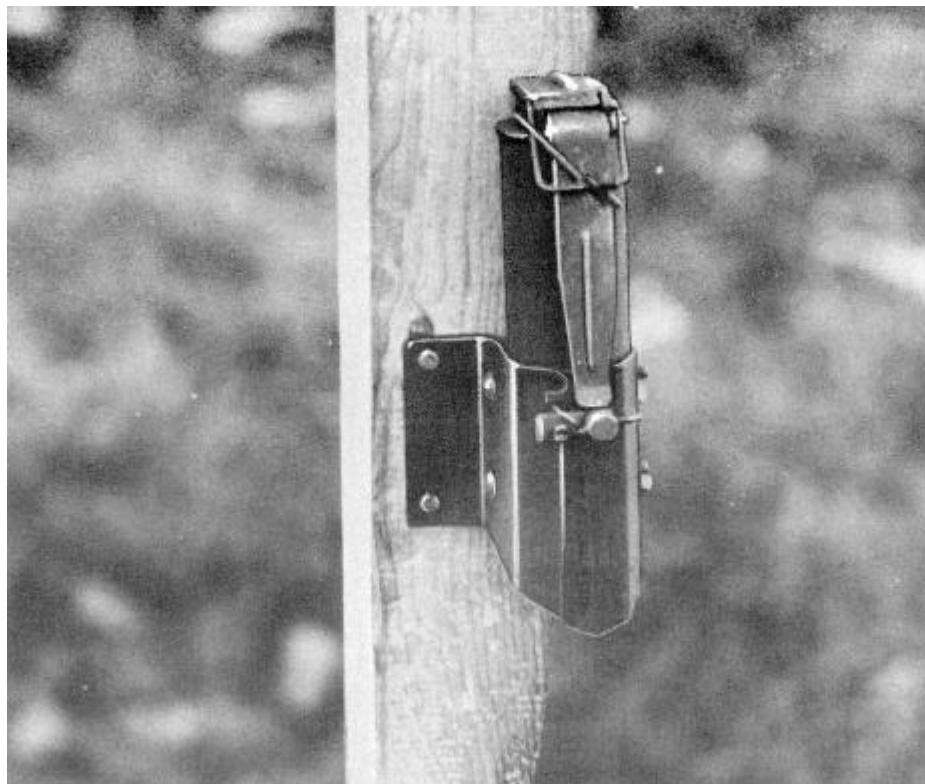

Figure 6-5      M49A1 Trip Flare Unarmed
2. Method No. 1. To arm the flare using the bracket trigger assembly as shown in Figure 6-5, the following will be carried out: